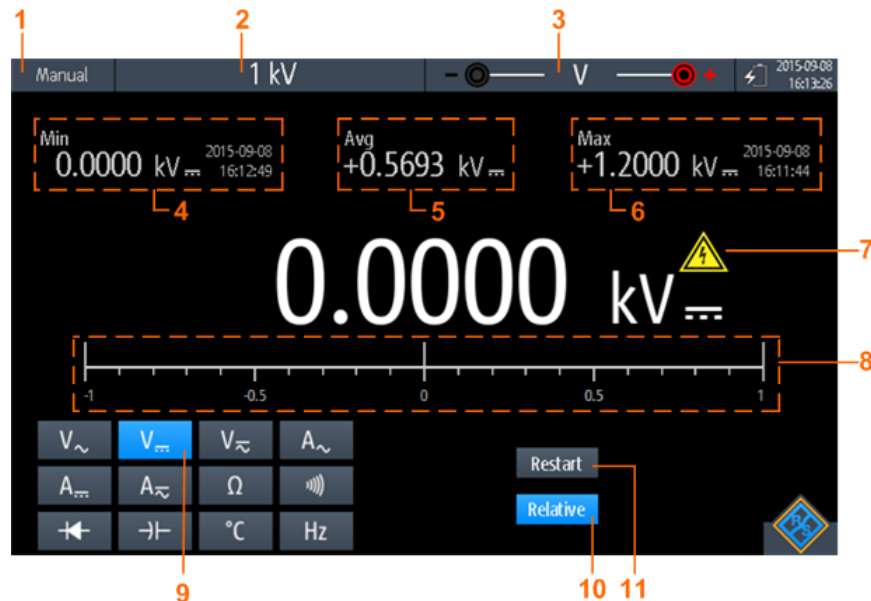

Figure 5-5: Display of the digital multimeter
3. Select the measurement type (no. 9 in Figure 5-5).